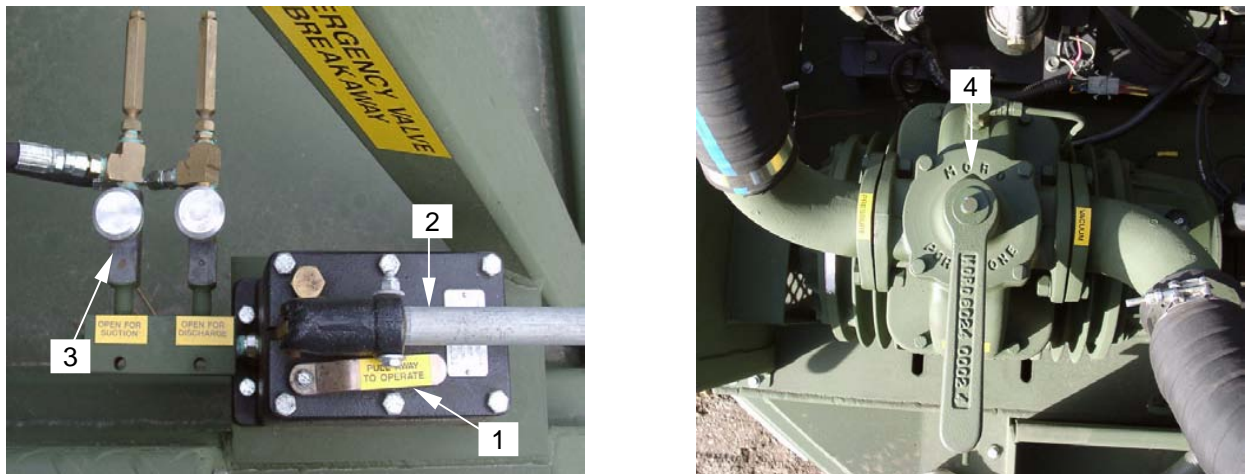

Figure 24. Hydraulic Valve Controls and Vacuum Pump Control
20. Close intake valve by placing hydraulic pump selector lever (**figure 24, item 1**) parallel with pump handle (**figure 24, item 2**). This procedure is also applicable if the filling operation is to be terminated before the tank is full.
21. Close intake valve (SUCTION) hydraulic control knob (**figure 24, item 3**).
22. Place vacuum pump control handle (**figure 24, item 4**) in neutral position.